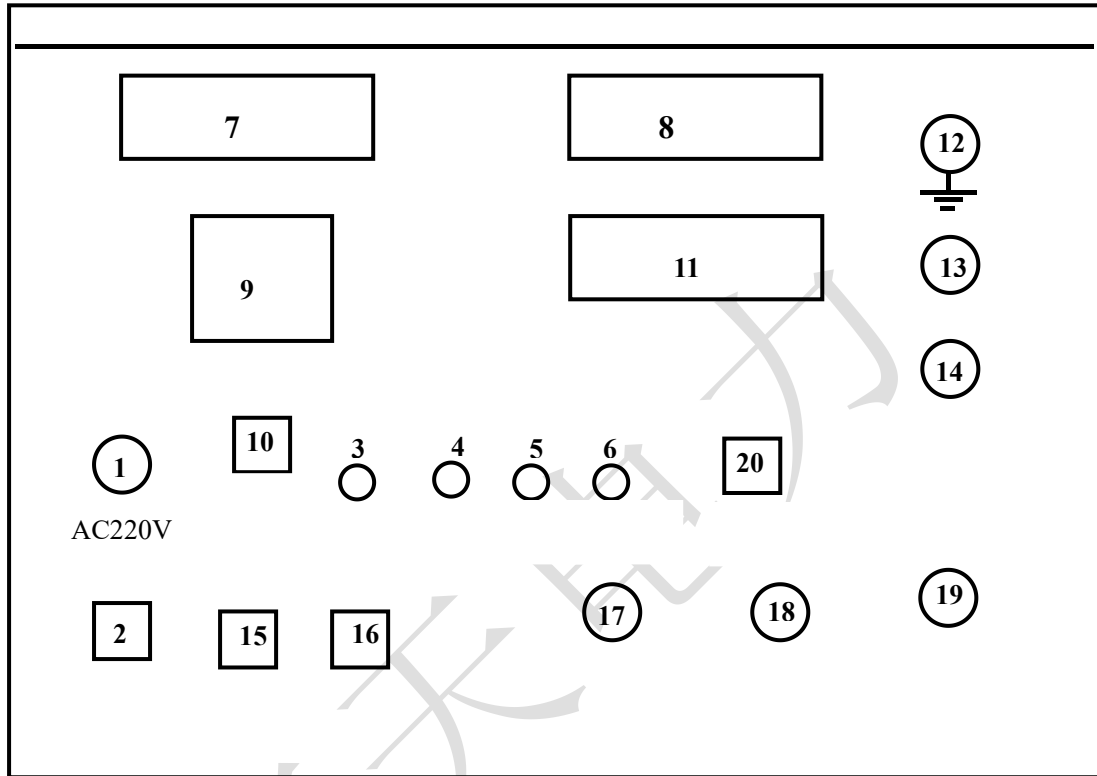

Figure 2. panel layout
1. this product is composed by operation cabinet and voltage doubling device, its panel shown as figure 2.